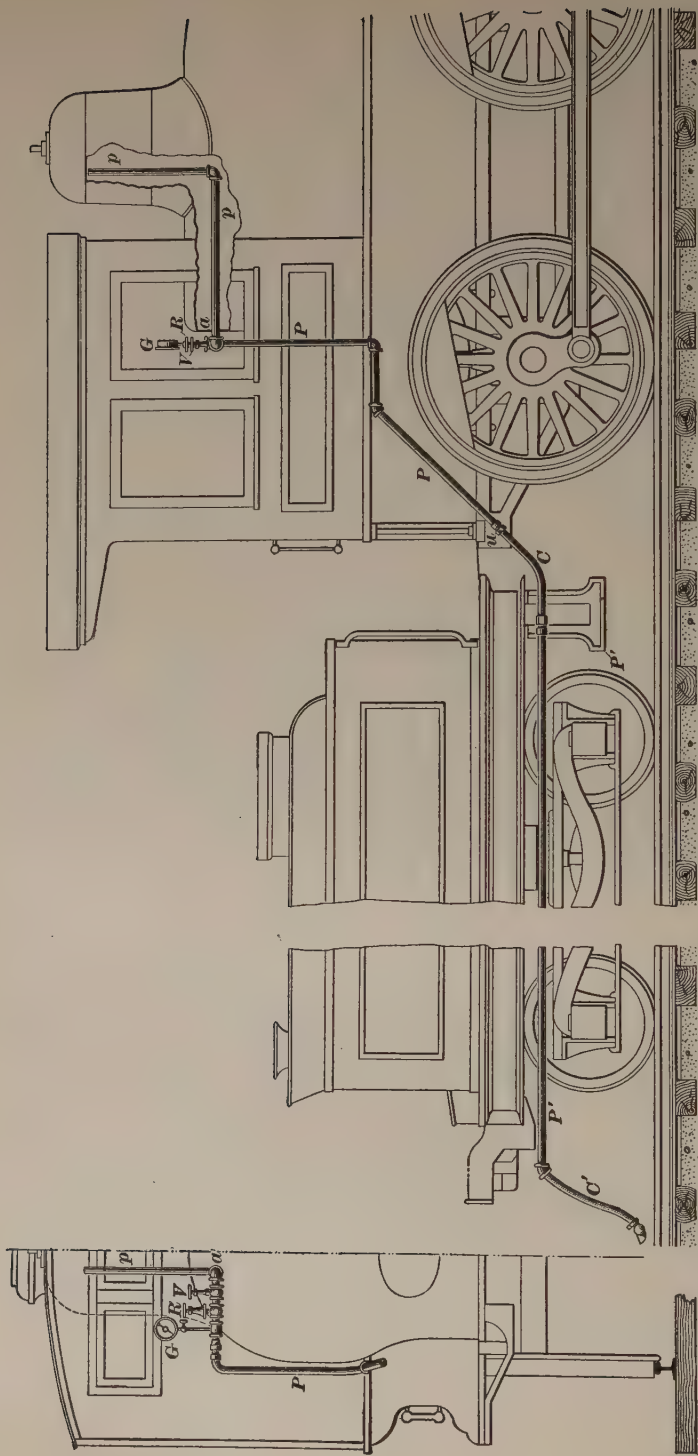

FIG. 1
2. Fig. 1 shows the arrangement of the engine equipment. Steam is taken through a dry pipe p in the interior of the dome, as shown, the pipe opening into the highest point of the dome and leaving the back head of the boiler at the point a . The valve V controls the steam supply from the boiler. R is the pressure regulator that regulates the pressure to the train. A pressure gauge G is connected with the train-pipe side of the regulator, and thus indicates the steam pressure on the train. The pipe P runs to the rear end of the engine, where it receives the union u . Connection is made here with the steam coupler C , which in turn connects with the pipe P' that runs to the rear of the tender and is fitted with a steam hose C' . Its rear